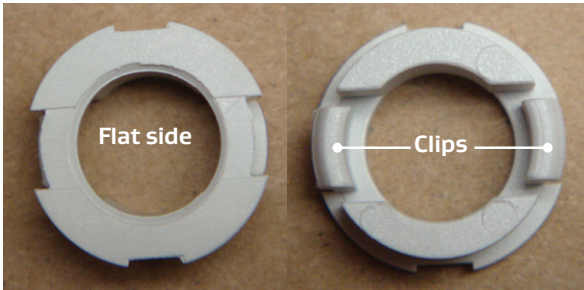

Figure 46: Retention cap
1. Slide the retention cap onto the cable with the flat edge facing the cable and both clips facing the end of the cable (Figures 46 and 47).